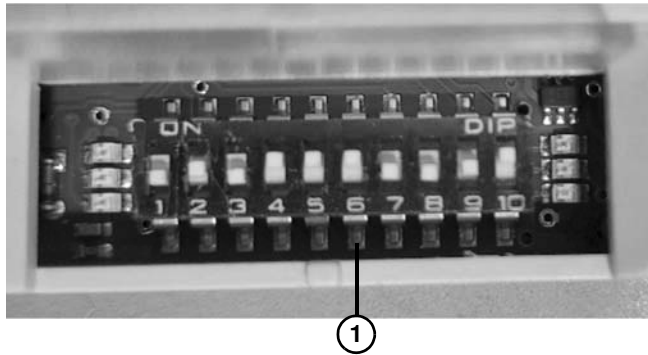

Figure 26
- Direction: DIP Switch 6 (**Figure 26, item 1**), and switch settings chart **Figure 27**).